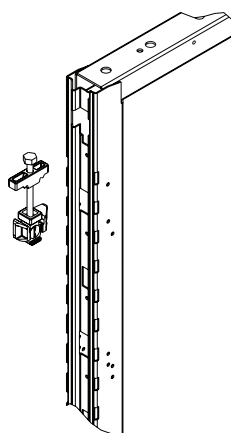

Fig. 2a:
- 3a. Assemble the upper wedge block by inserting 4" hex bolt through the center hole of the alignment bracket and screw into wedge block casting until bolt is flush with bottom of casting (**Fig. 2a**)